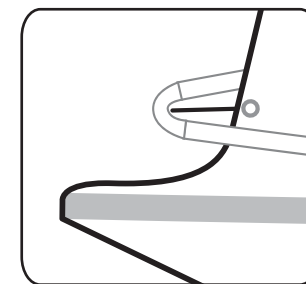

Fig. 4: Adjust the boom length to the outhaul cord.
- c) Then, gently pull on the outhaul cord and set your boom to the end of the cord (fig. 4).